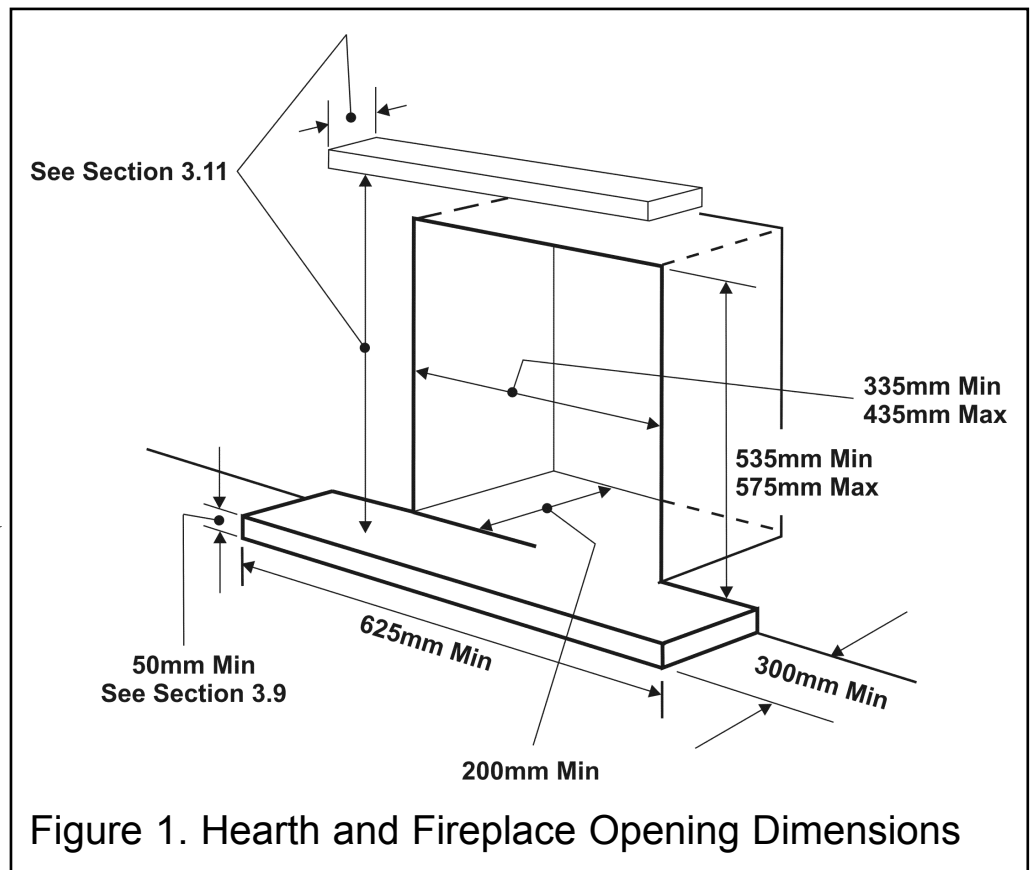

Figure 1. Hearth and Fireplace Opening Dimensions
- It is recommended that a hearth should be installed as in figure 1.
3.2.2 To a fireplace incorporating a metal flue box conforming to BS715 with a minimum internal depth of 150mm. Incombustible mineral wool insulation of not less than 50mm thickness must be applied to the top surface of the firebox (See figure 2) and it must stand on a non-combustible hearth. See figure 1.
3.9 The appliance must be mounted behind a non-combustible hearth (N.B. conglomerate marble hearths are considered as non-combustible). The appliance can be fitted to a purpose made proprietary class “O”-150°C surround. The hearth material must be at least 12mm thick. The periphery of the hearth (or fender) should be at least 50mm above floor level to discourage the placing of carpets or rugs over it. The appliance must not stand on combustible materials or carpets (See figure 1).